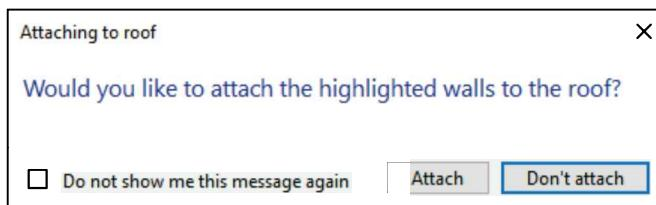

FIGURE 8-2.5 Roof Plan; attachment warning
14. Click **Attach** to attach the walls to the underside of the new roof (Figure 8-2.5).